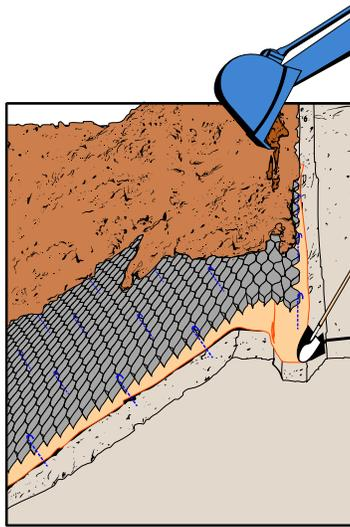
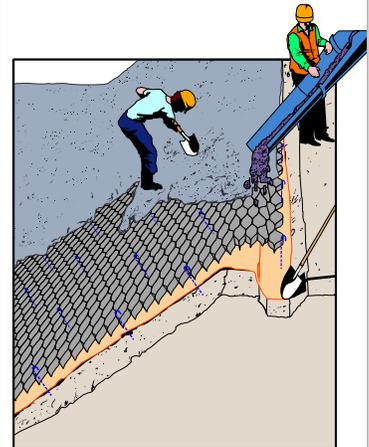

Figure 18 Excavator
Figure 22 Chute
- A range of equipment types can be used as illustrated in Figure 18– Figure 22.